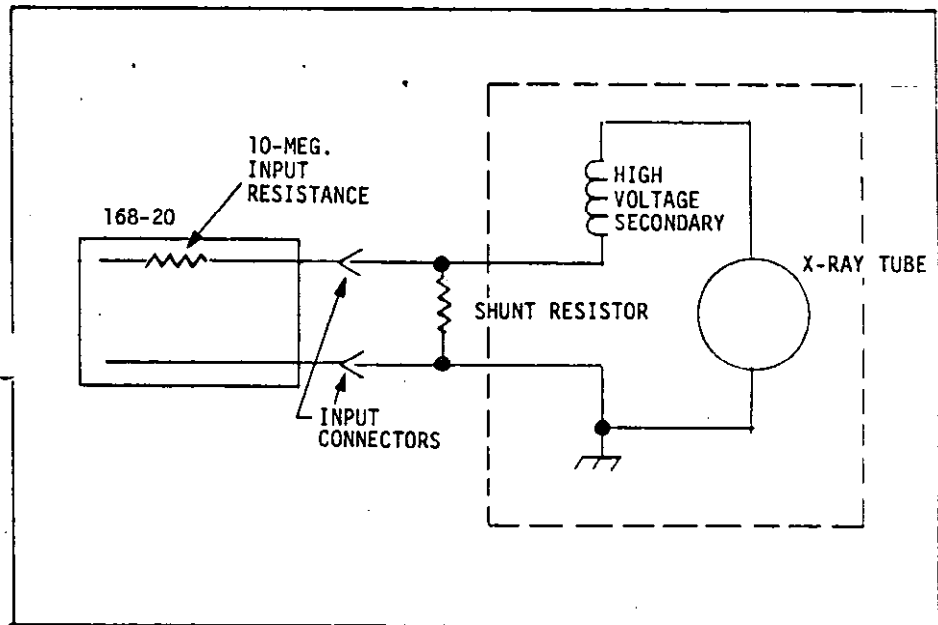

FIGURE 2. Integrating Voltage Mode
Figure 2 shows an alternate measurement technique for measuring mAs. A shunt resistor is securely installed across the ma or mAs test points and the 168-20 is used in the integrating voltage mode. Integrating voltage mode is selected by placing the mAs-NORM switch in the mAs position and depressing (DC).